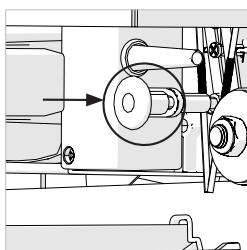

Fig. 17
- Lower the Cutting Head to the fully down position, 'capturing' the Lower Auxiliary Blade Guard. Push the Cutting Head Latching Pin into its socket. (**Fig. 17**)